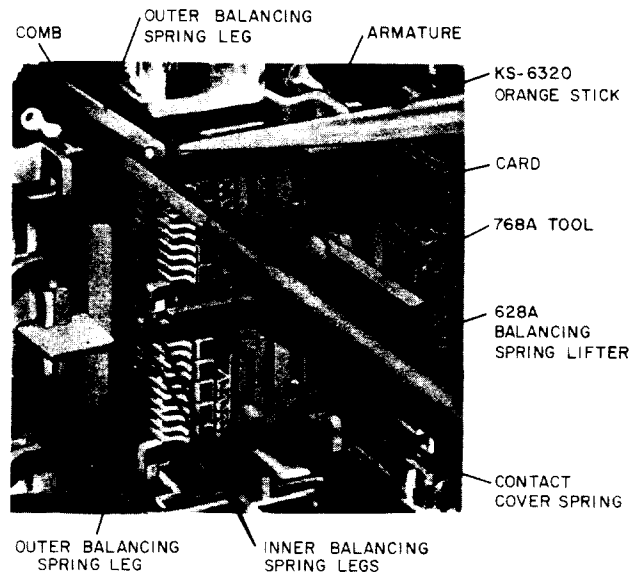

Fig. 4—Disengaging Outer Balancing Spring Leg From Upper Card
- 3.11 Balancing Spring Legs Engaging Upper Card:** Block the associated armature in the operated position with the 768A tool. To disengage the outer leg of the balancing spring, hold the 628A balancing spring lifter in the left hand and insert the lifter next to the leg so the end of the lifter is just behind the comb. Roll the end of the lifter under the leg of the spring so the leg rests in the groove of the lifter. Draw the lifter forward to the position shown in Fig. 4. With the other hand, place the end of a KS-6320 orange stick on the top edge of the card as shown in the figure. Lift the spring upward with the